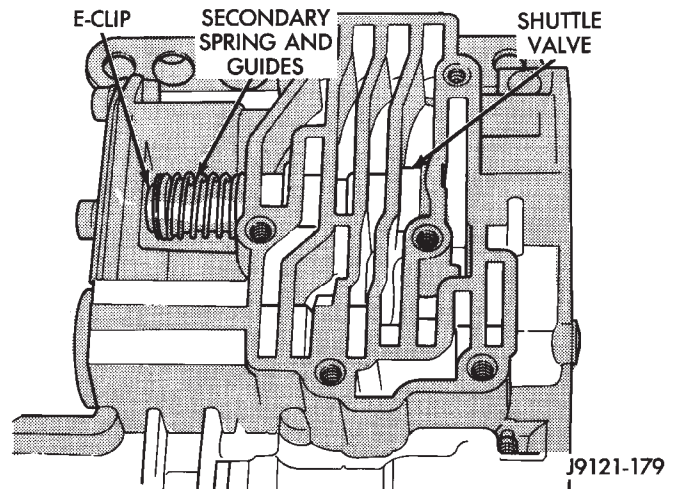

Fig. 116 Shuttle Valve E-Clip And Secondary Spring Location
(17) Remove shuttle valve end plate (Fig. 116).
(18) Remove shuttle valve E-clip and remove secondary spring and spring guides from end of valve (Fig. 116).